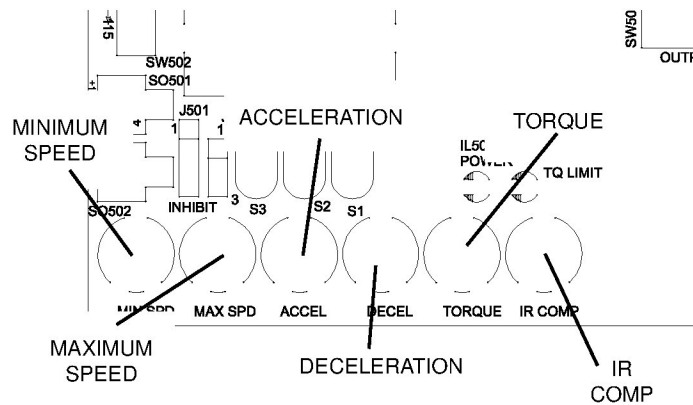

Figure 15. Calibration Trimpot Layout
All trimpot settings increase with clockwise (CW) rotation, and decrease with counterclockwise (CCW) rotation. Use a non-metallic screwdriver for calibration. Each trimpot is identified on the printed circuit board. Refer to Figure 15 for locations.